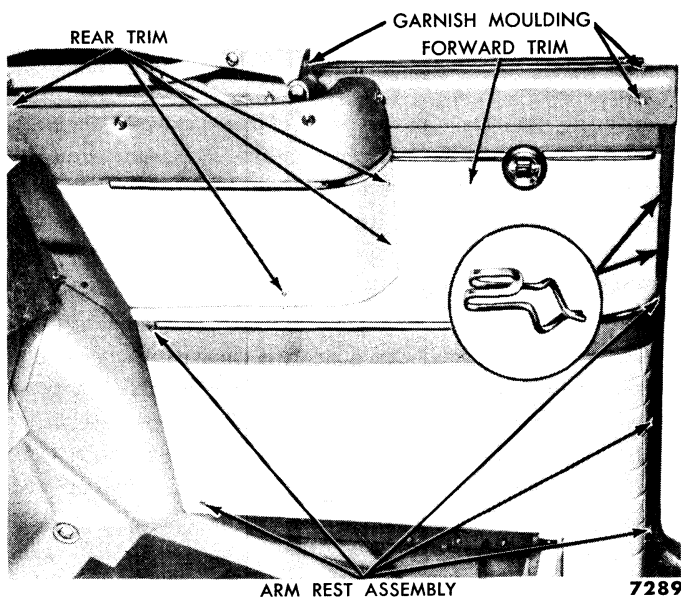

Fig. 6—Convertible Quarter Trim
(2) **CONVERTIBLE.** The quarter trim on the convertible consists of the forward trim panel, the rear trim piece, and the arm rest assembly (fig. 6). These units
To remove the rear trim piece, remove the four attaching screws, indicated by the heavy arrows in fig. 6, and lift the trim from the car. To install, position the assembly and install the four attaching screws.
Before removing the forward trim panel, loosen the two attaching screws at the front edge of the arm rest assembly in order to allow clearance for removing the panel. Remove the window regulator handle. Remove the three garnish moulding screws and the moulding (fig. 6). Disengage the two trim clips at the forward edge of the panel, and remove the panel.